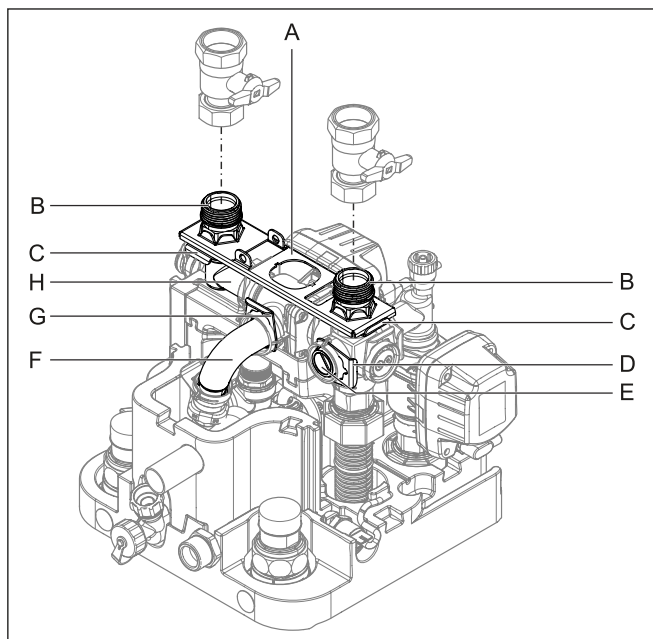
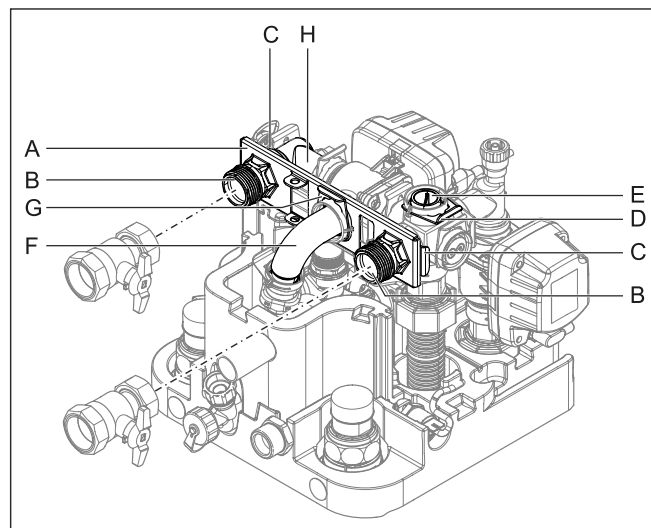

Fig. 4-17 Aligning the heating inflow and return flow upwards
Fig. 4-19 Heating inflow and return flow connections aligned to the rear
- 2 Pull the two plug brackets off the connection couplings (Fig. 4-17, item C).
- 3 Pull off the two connection couplings (Fig. 4-17, item B).
- 4 Remove the retaining plate (Fig. 4-17, item A).
- 5 Pull off the sealing plug bracket (Fig. 4-17, item D).
- 6 Pull out the sealing plug (Fig. 4-17, item E).
- 7 Turn the elbow (Fig. 4-17, item H) 90° to the rear.
- 8 Pull the plug bracket off the manifold (Fig. 4-17, item G).
- 9 Carefully pull the manifold (Fig. 4-17, item F) so far backwards out of its horizontal mounting that the retaining plate (Fig. 4-19, item A) can be pushed vertically in between.
- 10 Slide the retaining plate between the manifold and its horizontal mounting and insert the manifold (Fig. 4-19, item F) back into its mounting through the middle hole of the retaining plate.
- 11 Secure the manifold with plug bracket (Fig. 4-19, item G) in its mounting again.
- 12 Insert the two connection couplings (Fig. 4-19, item B) into the lateral mountings through the retaining plate.
- 13 Secure the two connection couplings with plug bracket (Fig. 4-19, item C) in their mountings.
- 14 Insert the sealing plug (Fig. 4-19, item E) into the upper mounting.
- 15 Secure the sealing plug with plug bracket (Fig. 4-19, item D).